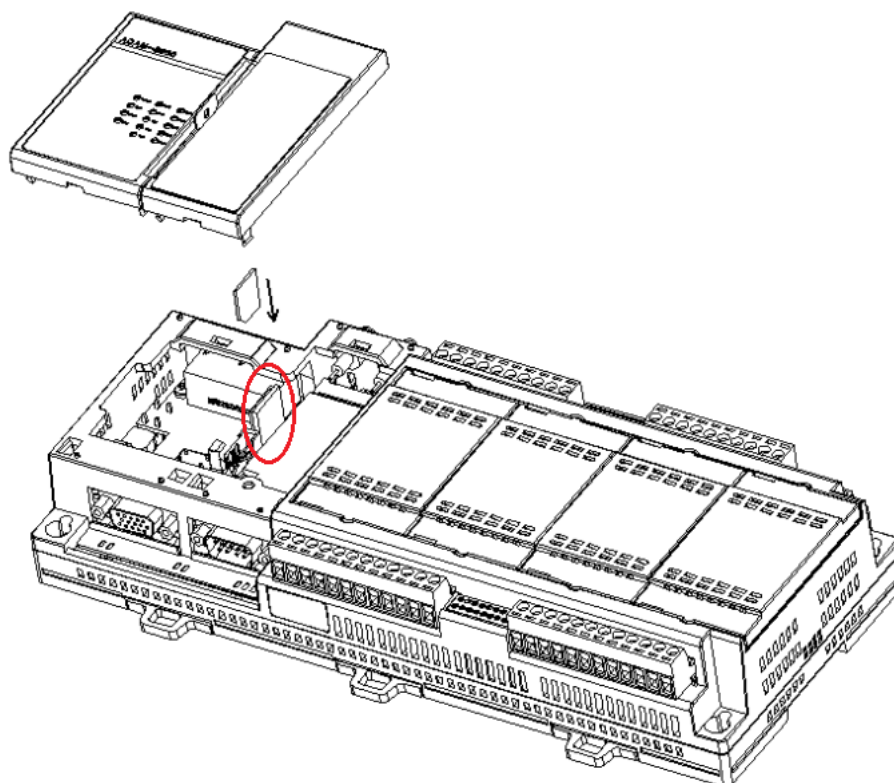

Figure 3.13 SIM Card Installation
**SIM Card Slot:** Handle with care to avoid electrostatic discharge (ESD) and ensure proper device grounding during installation (Figure 3.13).